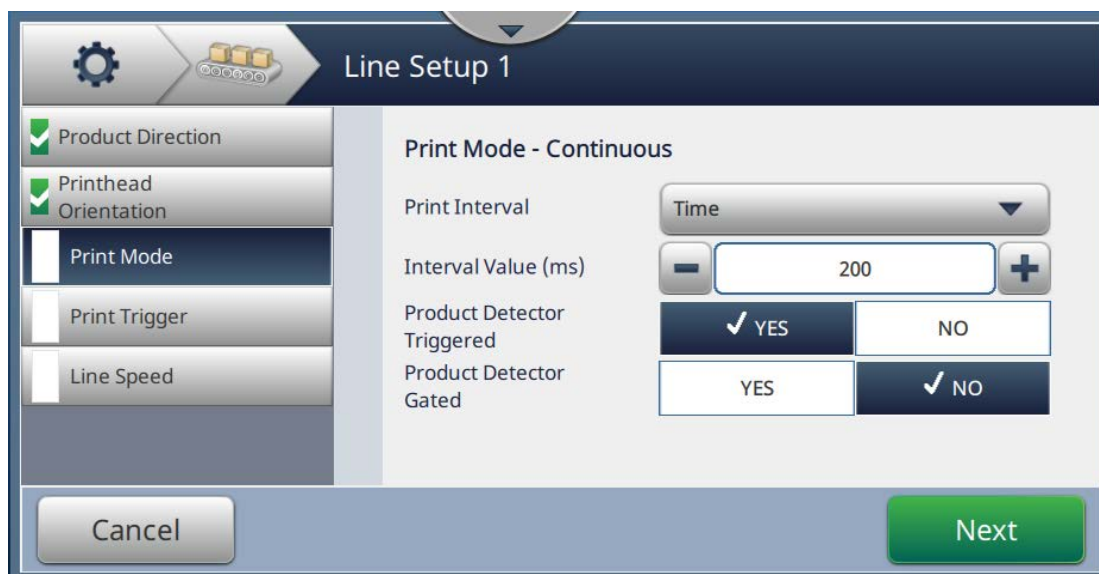

Figure 6-33: Print Mode - Continuous
2. Change the parameters in the Settings screen. Touch the  button to set the mode as shown in Figure 6-33.